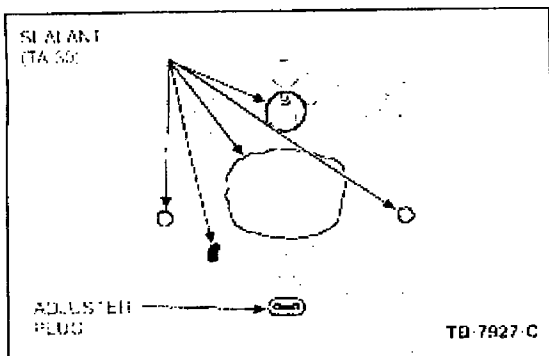

Figure 1 - Article 04-17-9
7. Apply sealant to the backside of the rear drum brake backing plate at the following interface areas (Figure 1):